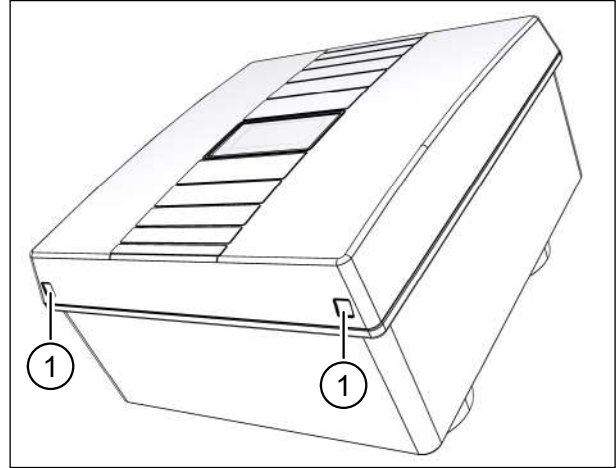

Fig. 31: Removing the unit cover from the ventilation unit
- ▶ Using both thumbs, press the two latches (item 1 in Fig. 31) on the bottom of the ventilation unit. The unit cover will come away.